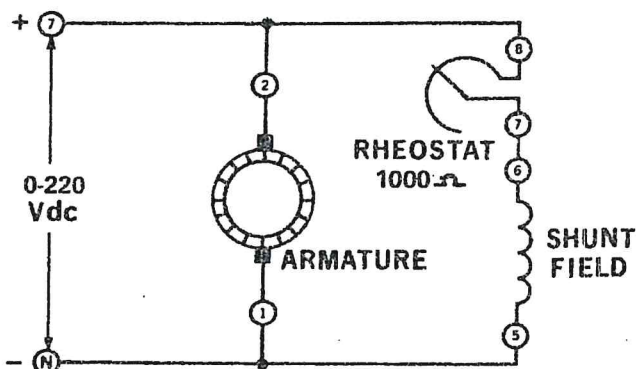

Fig. 12-4
□ 12. Connect the circuit shown in Fig. 12-4. Notice that the rheostat is in series with the shunt field, and that this combination is in parallel with the armature, across the input voltage.
☐ 16. Interchange the connection leads to the power supply. Your circuit should be the same as the one shown in *Fig. 12-4*. Now reverse the connections to the armature only.